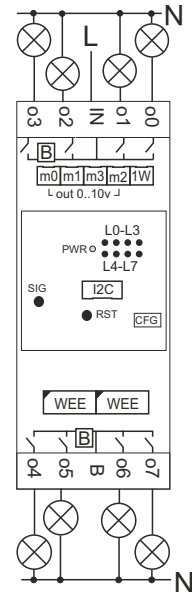

Fig 1. Diagram of connecting the connector
- Note of the card PIN and Serial Number (SN) device (Both located on the housing of the device)
- Connect wires: L, o0..o7, In; by Fig.1